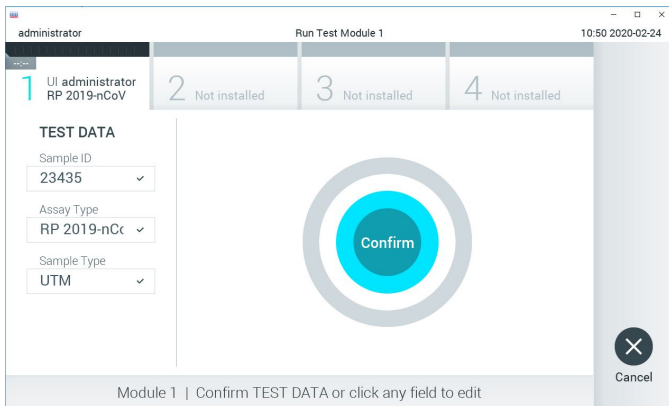

Figure 27. Confirming data entry.
18. Press **Confirm** when all the displayed data are correct. If needed, select the appropriate field to edit its content, or press **Cancel** to cancel the test (Figure 27).